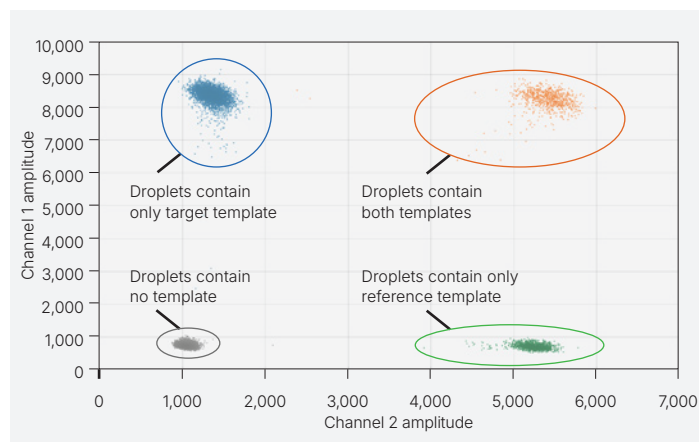

Fig. 1. Two-dimensional scatter plot for a QX200 ddPCR System. The scatter plot shows the four clusters obtained with a target (FAM) and reference allele (HEX).
- The optimal annealing temperature range is determined based on the separation between 4 clusters (Figure 1)